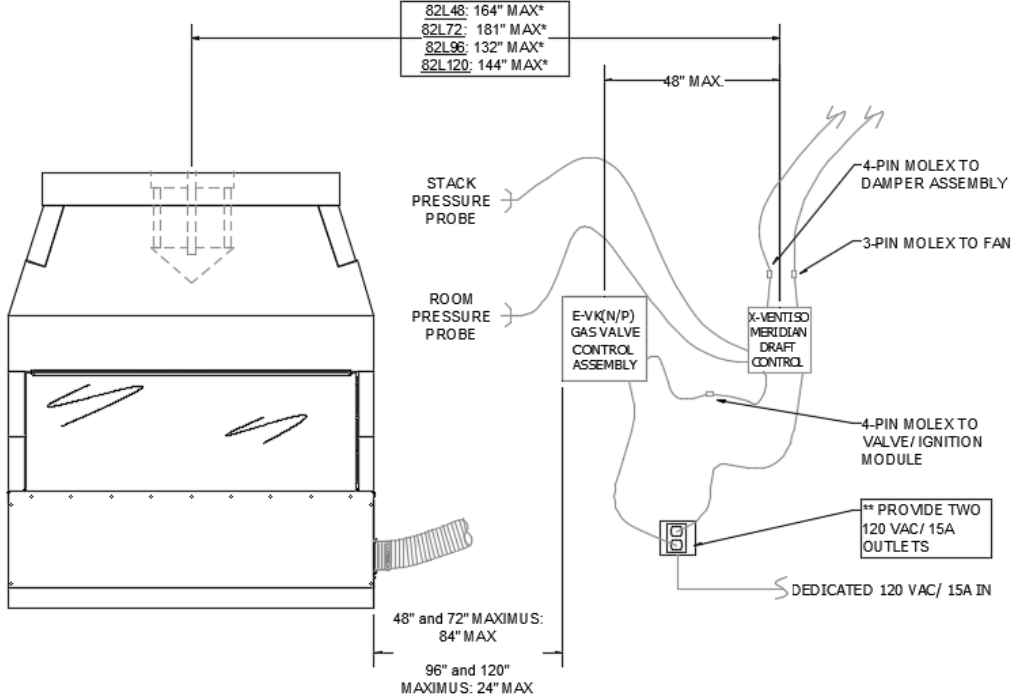

FIGURE 26
- The location of the Meridian Control Panel is dependent upon the fireplace model and must be within the values shown in **(Figure 26)**. The distances shown are as measured horizontally from the fireplace flue-outlet.
NOTE: the Isoflames Linear Burner’s gas valve control box location is also dependent upon the fireplace model/ burner size. It must be located within 84” of the sidewall of the firebox for the 48” and 72” Maximus Linear and within 24” for the 96” and 120” Maximus Linear **(Figure 26)**.
- Two 120 VAC / 15A outlets must be provided at the chosen location on a dedicated circuit; one for the Meridian Control Panel, the other for the Gas Valve Control Box . These outlets must be within the extent of the 72” power supply cables of the Meridian Control Panel and the E-VK(N/P) Gas Valve Control assembly **(Figure 26)**.
- 3) Connect the top port of the Meridian Control Panel’s pressure ports with the supplied tubing to the “Stack Pressure” vent probe (**Figure 26, 27 & 29**). This will be connected to the chimney at a location 12” above the anchor plate.
- 4) Connect the lower port of the Meridian Control Panel’s pressure ports with the supplied tubing to the “Room Pressure” vent probe (**Figure 26, 28 & 29**). The other end will be connected in a suitable location in the room in which the fireplace is installed. This location must be in the same pressure zone as the fireplace opening, and within reach of the supplied tubing’s connection to the Meridian Control Panel. The tubing measures 20ft.